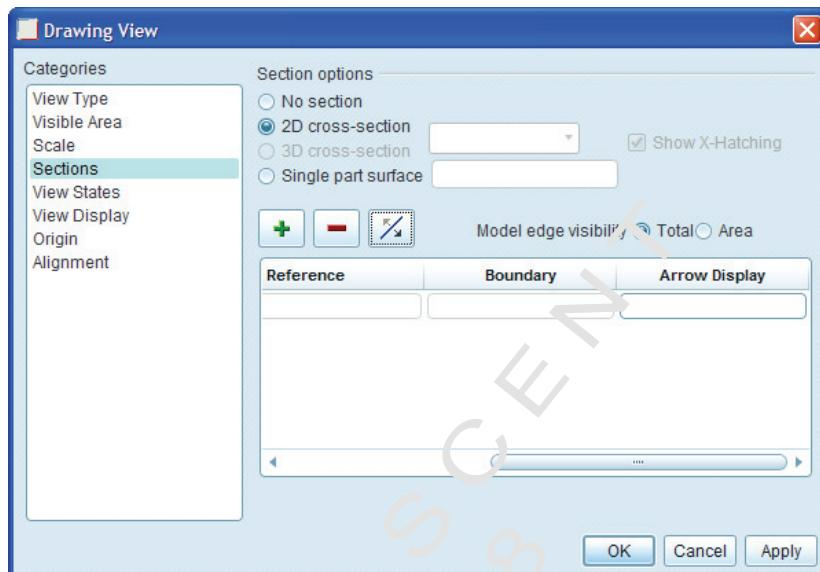

Figure 1–68
21. Select the General view in the drawing as the view to display the cutting plane arrows. Click **Apply**. The drawing appears as shown in Figure 1–69.